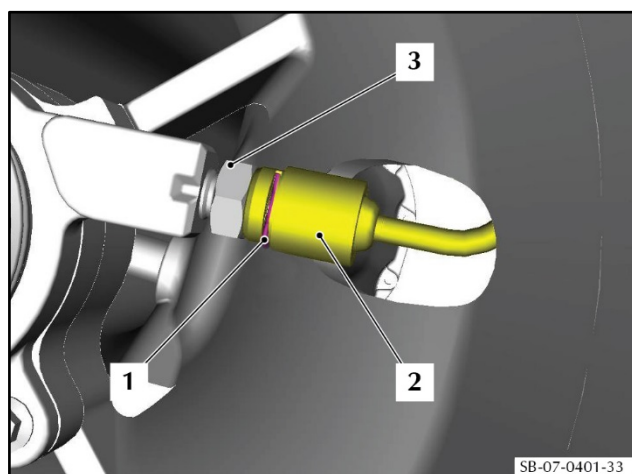

Figure 35
63. Remove the clip (1) that attaches the connector (2) for the clutch fluid tube assembly (tube assembly) to the concentric slave cylinder (3) (cylinder) (refer to Figure 35).
64. Disconnect the tube assembly (2) from the cylinder (3).